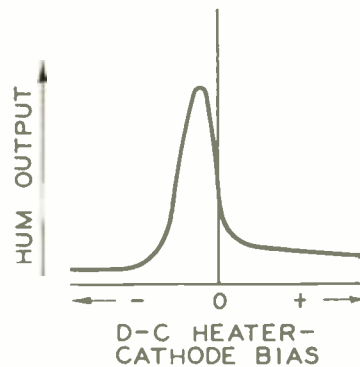

FIG. 4
Three remedies are suggested for this type of hum: (1) reduce  $Z_c$  to a low value by adequate by-passing, (2) obtain bias from a source that is not common to heater and cathode, and (3) bias the heater either positive or negative with respect to cathode by about 10 volts. The value of suggestions (1) and (2) is generally appreciated, but that of (3) may require further explanation. The success of (3) depends on a resistance characteristic peculiar to heater cathode insulation. Curves showing the relation between hum voltage and d-c heater bias indicate that maximum hum occurs at biases between  $\pm 1$  volt on the heater; that hum voltage falls rapidly with increasing bias; and that hum voltage remains at a constant low value for heater cathode biases greater than approximately  $\pm 10$  volts. The general shape of a hum curve is shown in Fig. 4.